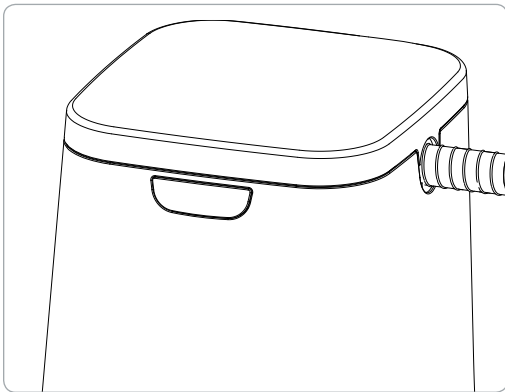

Figure 8. Closed lid with mask inside
5. Close the Lid with the hose placed in the open slot (figure 8). The SoClean will now automatically operate according to its preset time and duration.